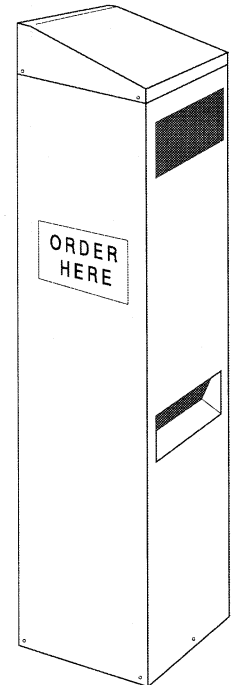

Figure 1.
- ! Position the sign on the inside of the speaker post, over the rectangular sign hole, so it will be read correctly from outside the speaker post when the post is standing upright, as shown in Figures 1 and 9. Be certain the four threaded studs near the corners of the hole go through the four holes in the sign.